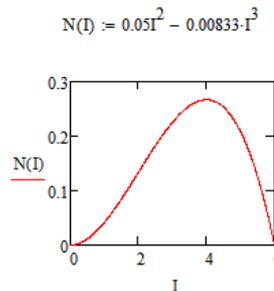

Fig. 1 - Graph of the non-linearity  $N(I) = 0.05I^2 - 0.00833I^3$
Graph of the non-linearity is shown on figure 1.
- (d) Mathematically maximum non-linearity is extrema of the function  $N(I)$  (see fig. 1).
In the figure 2(a), are shown graphs of temperature in temperature control process and values, measured with sensors (time constant varies from 0.1 s to 10 s). In the figure 1(a), are shown graphs of error in temperature evaluation (time constants are 0.1s and 0.5s).